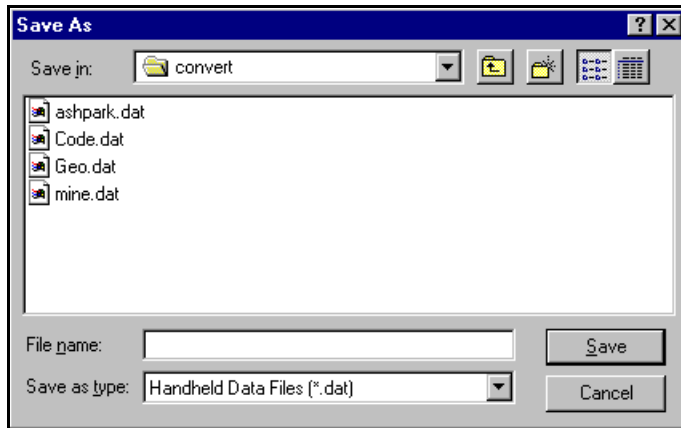

Figure 2.6. Output File Select Dialog
- Click the Browse button. In the Save As dialog box (Figure 2.6), navigate to the folder where you want to save the converted file, enter the file name in the File Name field, and click the Save button.